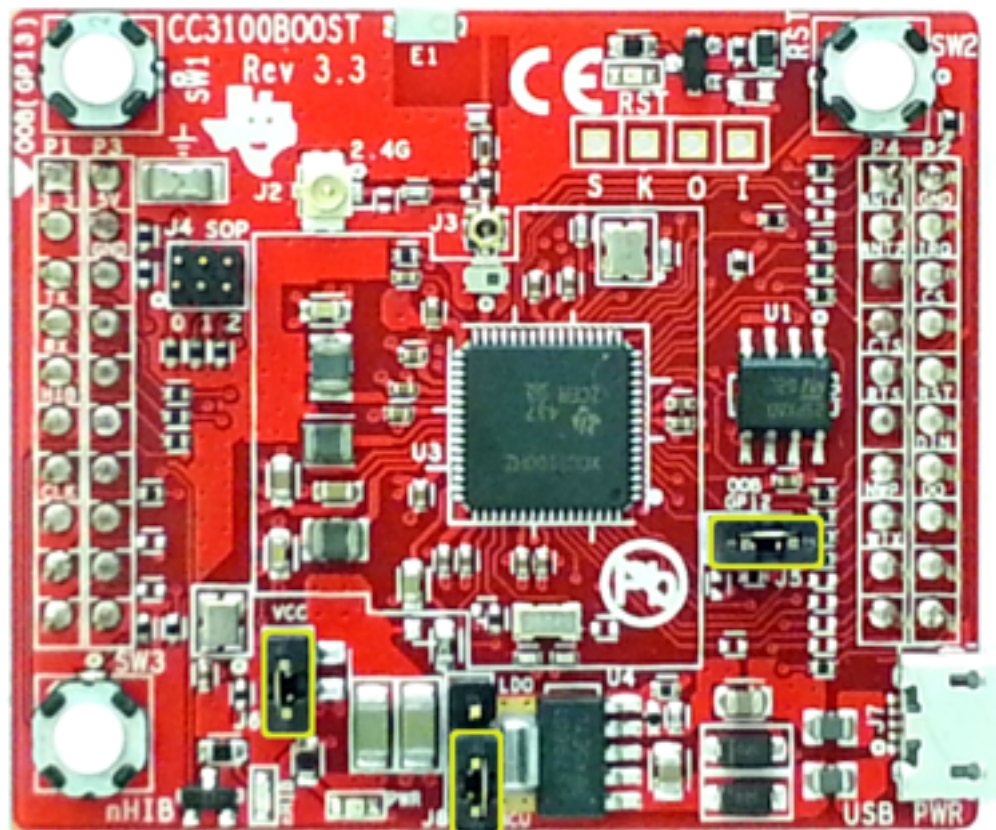

Figure 1. CC3100BOOST
1. The jumpers on the CC3100BOOST should be connected as shown in Figure 1.